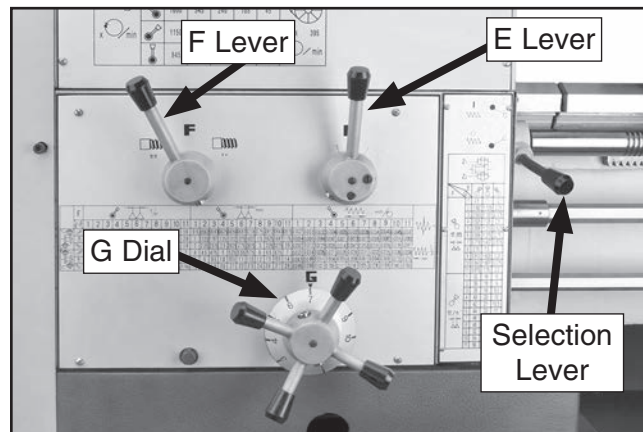

Figure 77. Quick-change lever and dials positioned for 0.0077 in./rev.
4. Position the quick change gearbox **G Dial** at **7**, **E lever** at **2**, and the **F lever** to the **left**, as shown in **Figure 77**. If necessary, rock the spindle back and forth to help mesh the gears.